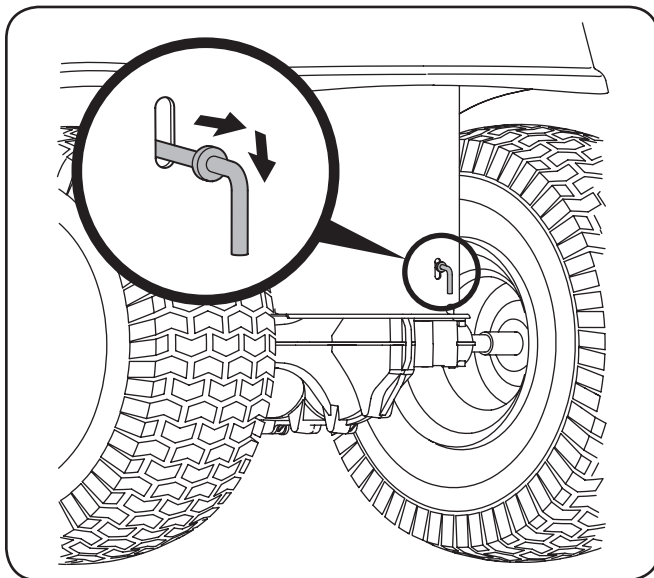

Figure 3-10
1. Locate the hydrostatic bypass rod in the rear of the tractor. See Fig. 3-10.